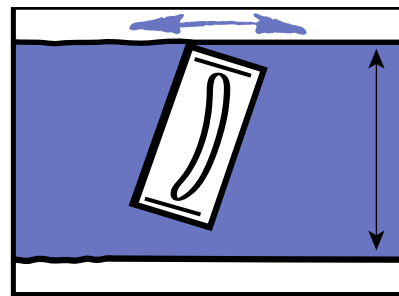

FIGURE 64 Sanding
- > Lightly sand to a smooth even surface using 180 to 220 grit sandpaper or sanding mesh. [Figure 64]